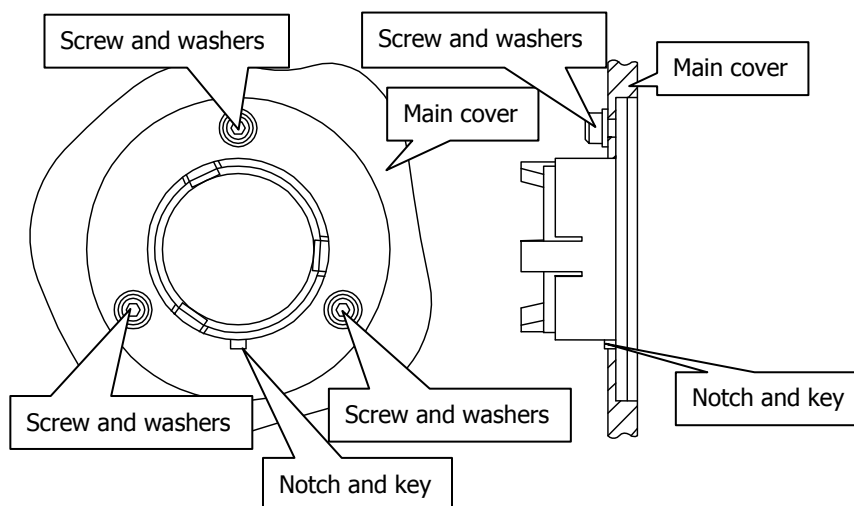

Figure 46 Window installed in main cover
Ensure the seal is fully seated and the key on the window lines up with the notch in the main cover (Figure 46).
4. Secure the window to the main cover by fitting the screws and washers and tightening the screws using the hexagonal wrench (Figure 46).